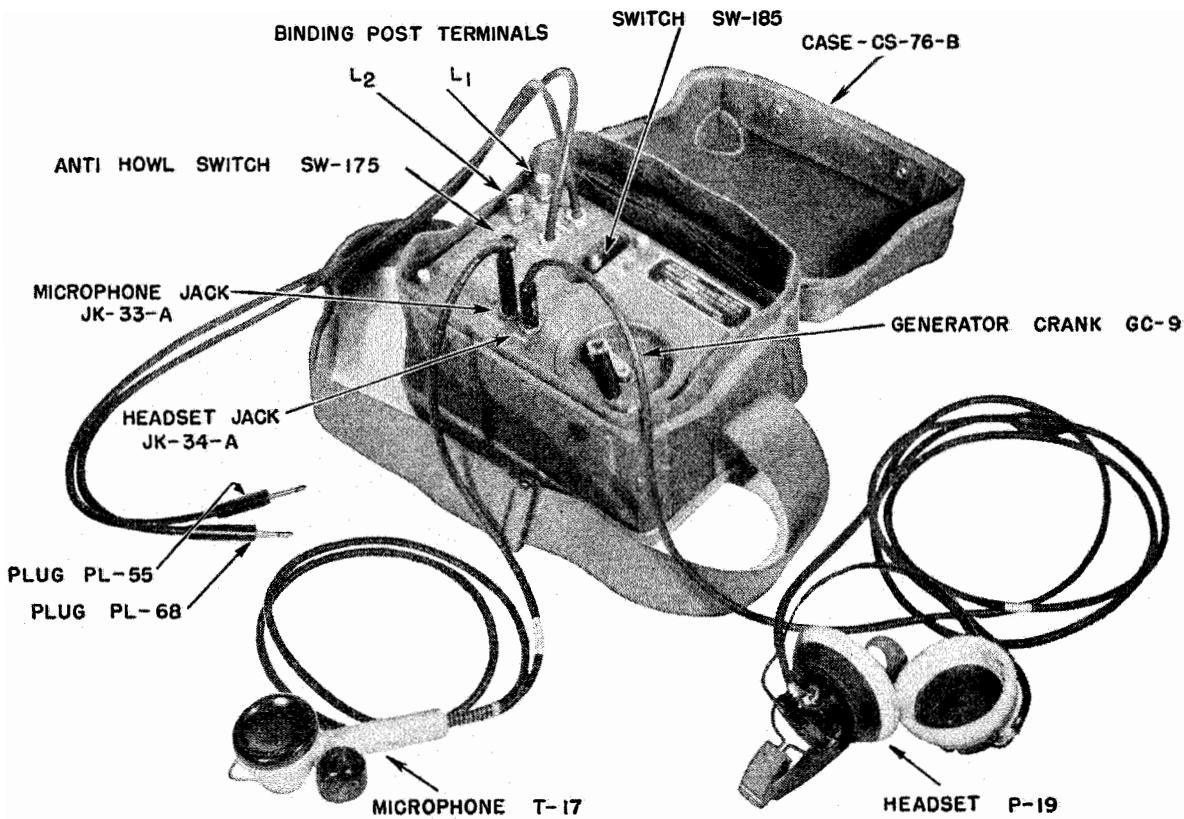

FIG. 5. REMOTE CONTROL RM-29-(*)
i. Remote Control Unit RM-29-():—* (FIG. 5)